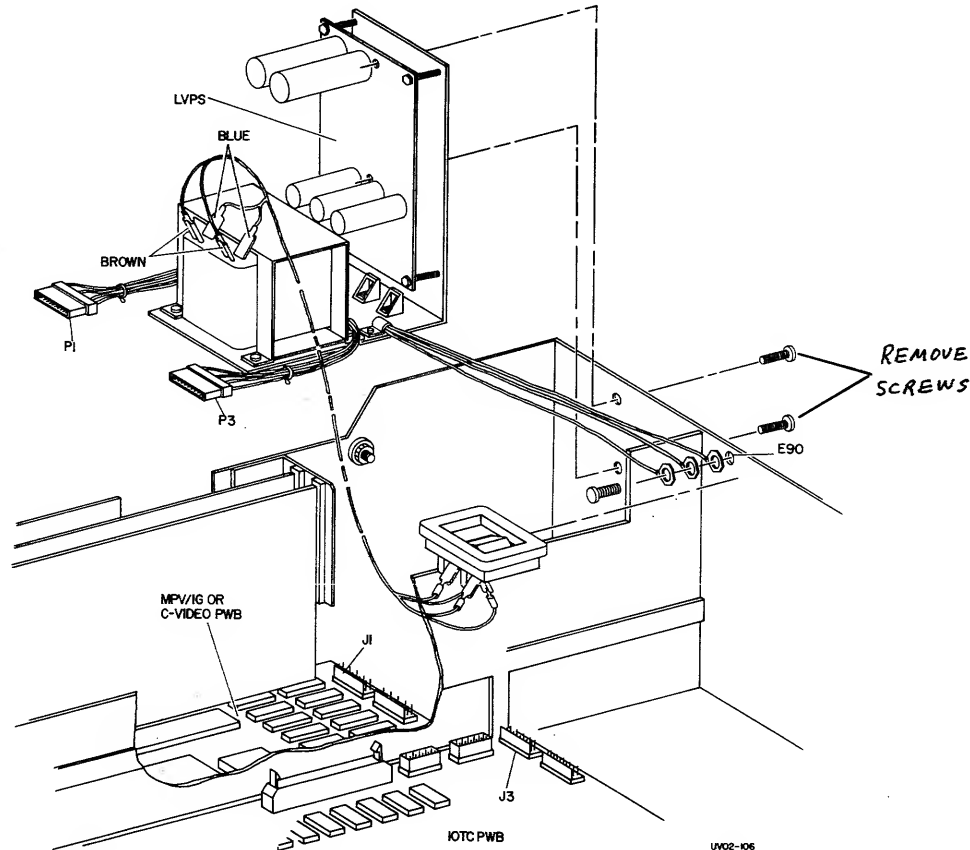

Figure 3-25. Low Voltage Power Supply
4. DISCONNECT WIRING (Figure 3-25).